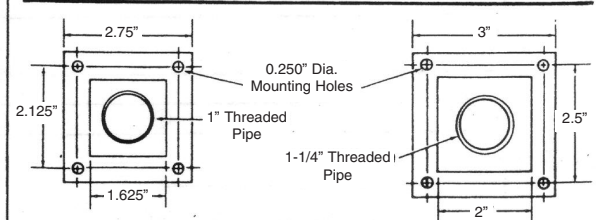

Figure 4b. Pedestal Details
- Drill holes in floor (Fig. 4b) and install threaded inserts (or equivalent for 1/4" mounting bolts (inserts and bolts supplied by installer.)